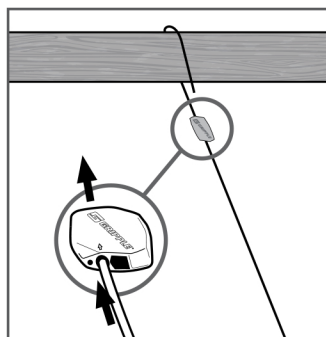

FIGURE 4: THREAD GRIPPER
1. Thread Gripper onto cable (see inset detail). Pass over ceiling anchor point (as shown) or through other secure anchor point of the building structure. Installer is responsible for ensuring that anchor point is secure to building structure. (See figure 4).